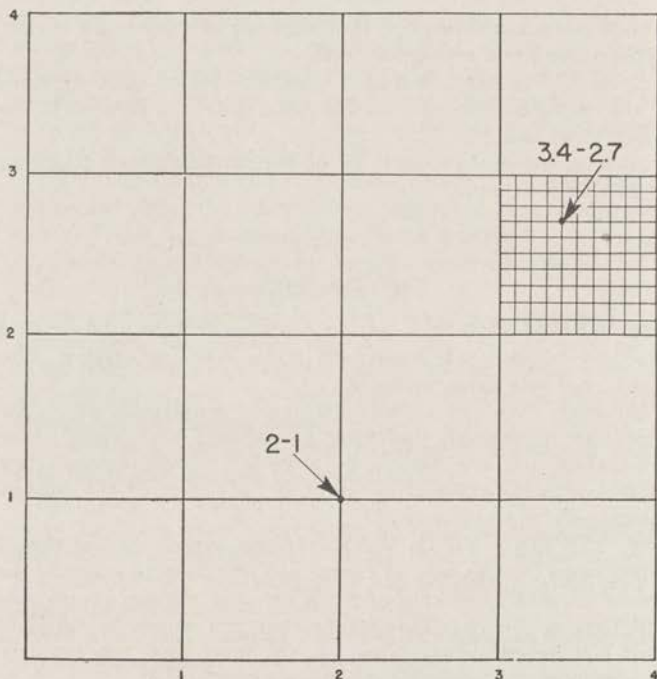

FIGURE 15.—Locating a point on a grid.
a. “*Read Right Up.*”—You can easily locate any point on an Army map from a simple, numbered designation if you understand the grid. The grid is formed by ruling off the map with numbered north-and-south lines and numbered east-and-west lines. (See fig. 15.) The point where these lines cross is known by the numbers of the two lines, reading first to the *right* and then *up*. “*Read right up.*” As you can see, point 2-1 is at the point where line 2 (reading to the *right*) and line 1 (reading *up*) cross.
continue to a point seven-tenths of the way to line 3. The location is shown in figure 15. Although you won't find the tenths marked on a real grid map, you can easily space them off for yourself.